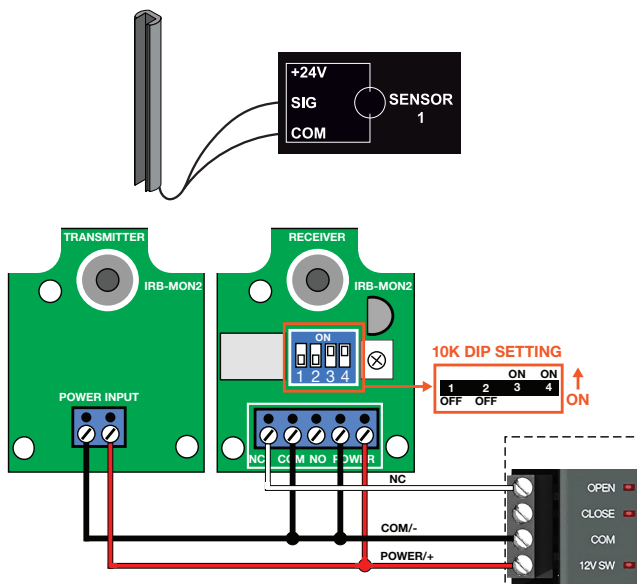

Figure 13. Bundled Sensor Connections
3. Route the wires to the inside of the HydraSupply II enclosure, then install the wires into input Sensor #1, Sensor #2, or Input #1, Input #2, or Input #3 on the SmartTouch 720/725 Controller (Figure 13).